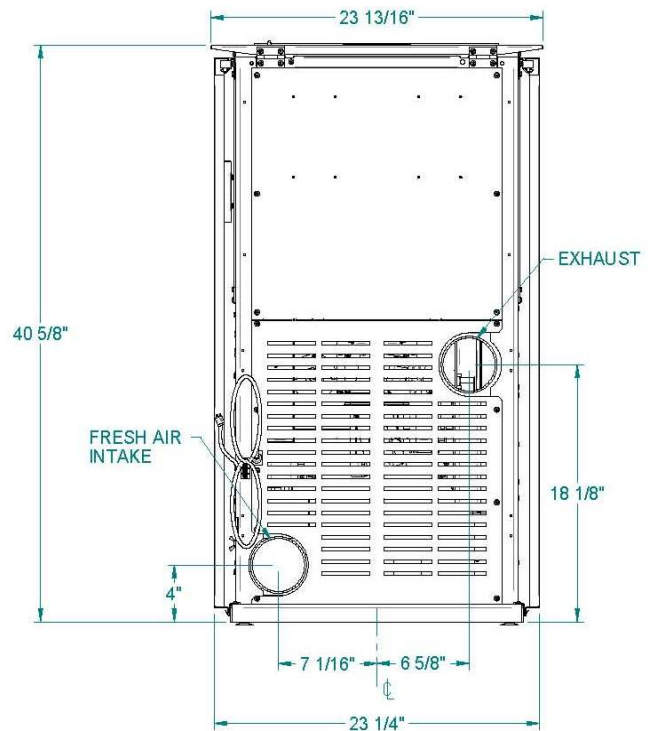
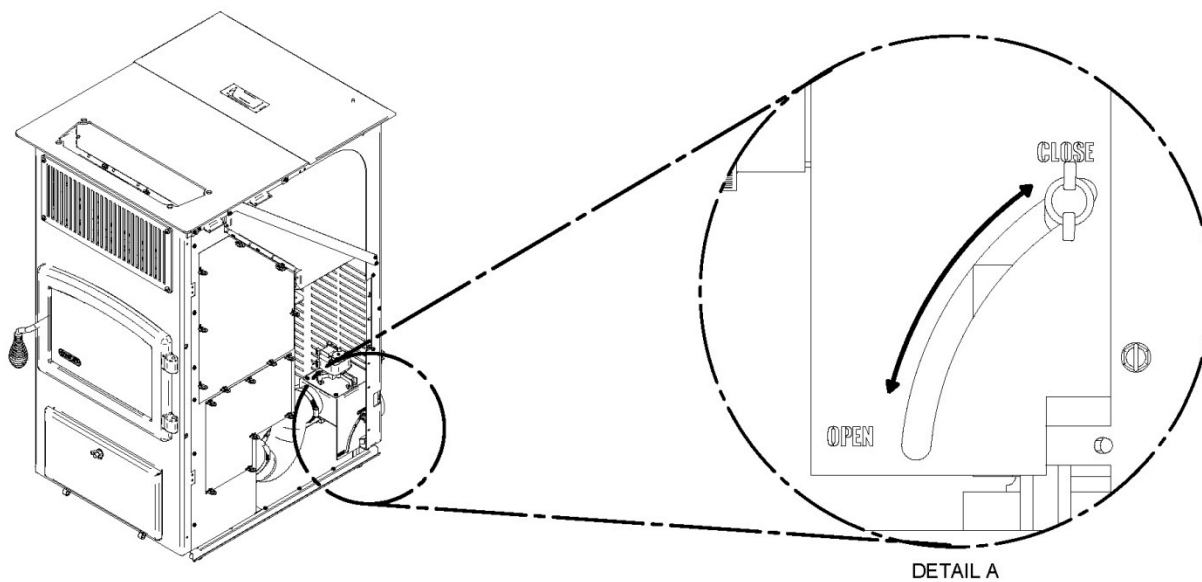

FIGURE 5
FIGURE 6.
A 4" inside diameter metallic pipe, either flexible or rigid, must be attached to the inlet at the stove's rear (refer to figures 5, 6 & 7). A rodent guard (minimum $\frac{1}{4}$ " wire mesh) must be used at the terminus (refer to figure 6). All connections must be secured and airtight by either using the appropriately sized hose clamp and/or UL-181-AP foil tape. Also make sure that the fresh air damper is open while the stove is running. The fresh air intake damper is located at the back of the stove right hand side (refer to figure 6.).
2. Locate position of hole in wall; directly behind stove exhaust vent (refer to figure 5).